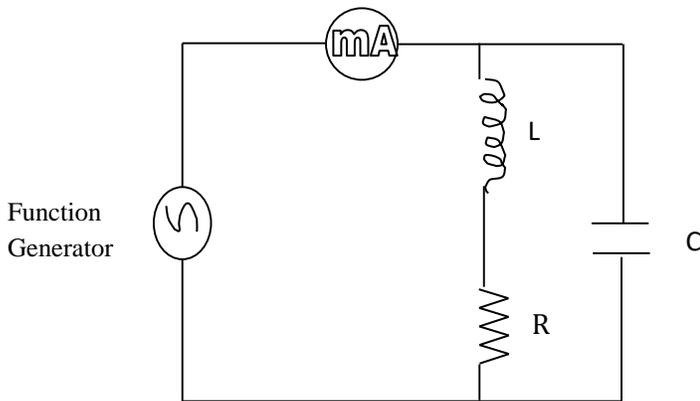

Figure 5.3
6. The circuit connections are made as shown in Fig. 5.3.